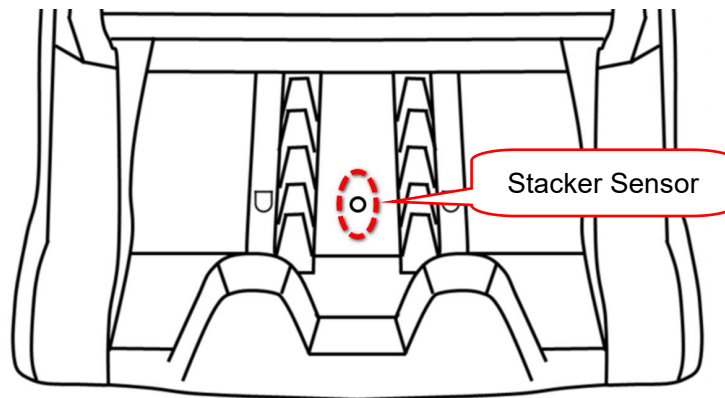

Figure 97
As shown in the following Figure 97, clean the sensor with nylon brush or cleaning cloth. (ST)